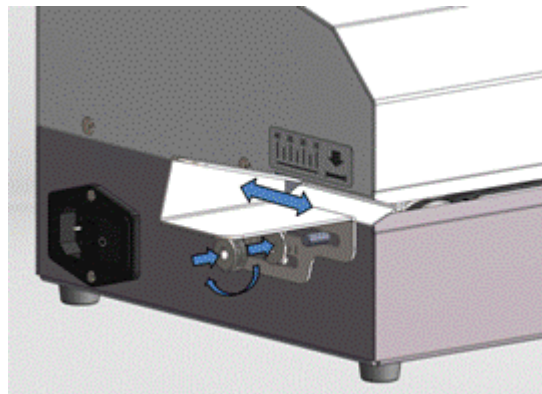

Figure 2
7. Guide plate installation: screw nut counterclockwise to adjust plate as Figure 2 and clockwise tighten.